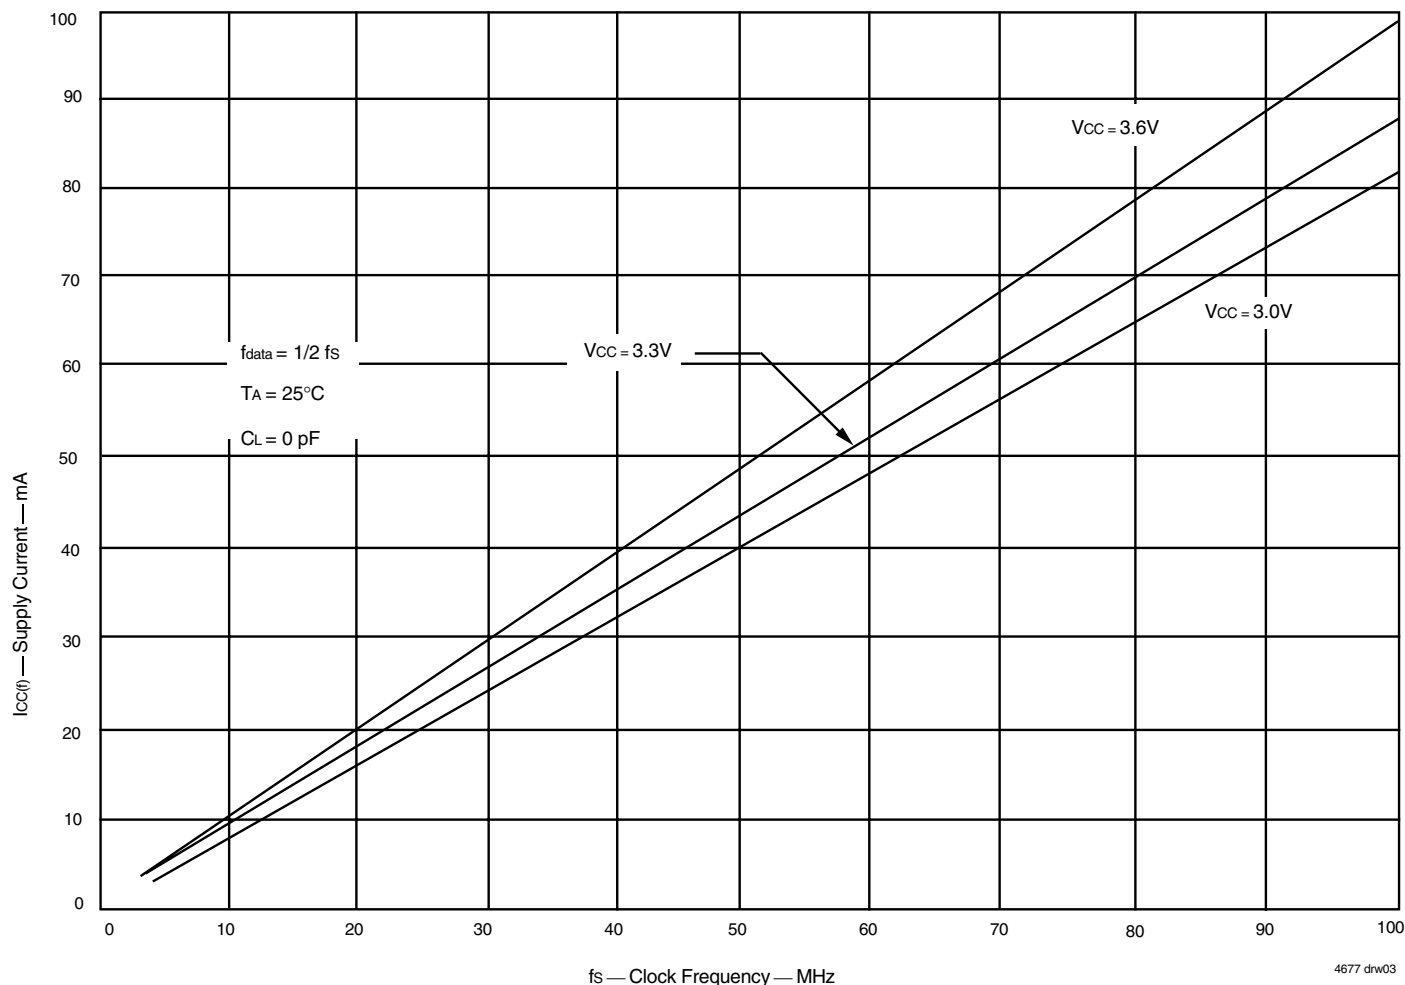

Figure 1. Typical Characteristics: Supply Current (I_{CC}) vs. Clock Frequency (f_s)
- For additional I_{CC} information, see Figure 1, *Typical Characteristics: Supply Current (I_{CC}) vs. Clock Frequency (f_s)*.
The $I_{CC(f)}$ current for the graph in Figure 1 was taken while simultaneously reading and writing a FIFO on the IDT72V3684/72V3694/72V36104 with CLKA and CLKB set to f_s . All data inputs and data outputs change state during each clock cycle to consume the highest supply current. Data outputs were disconnected to normalize the graph to a zero capacitance load. Once the capacitance load per data-output channel and the number of these device's inputs driven by TTL HIGH levels are known, the power dissipation can be calculated with the equation below.
With $I_{CC(f)}$ taken from Figure 1, the maximum power dissipation (PT) of these FIFOs may be calculated by: